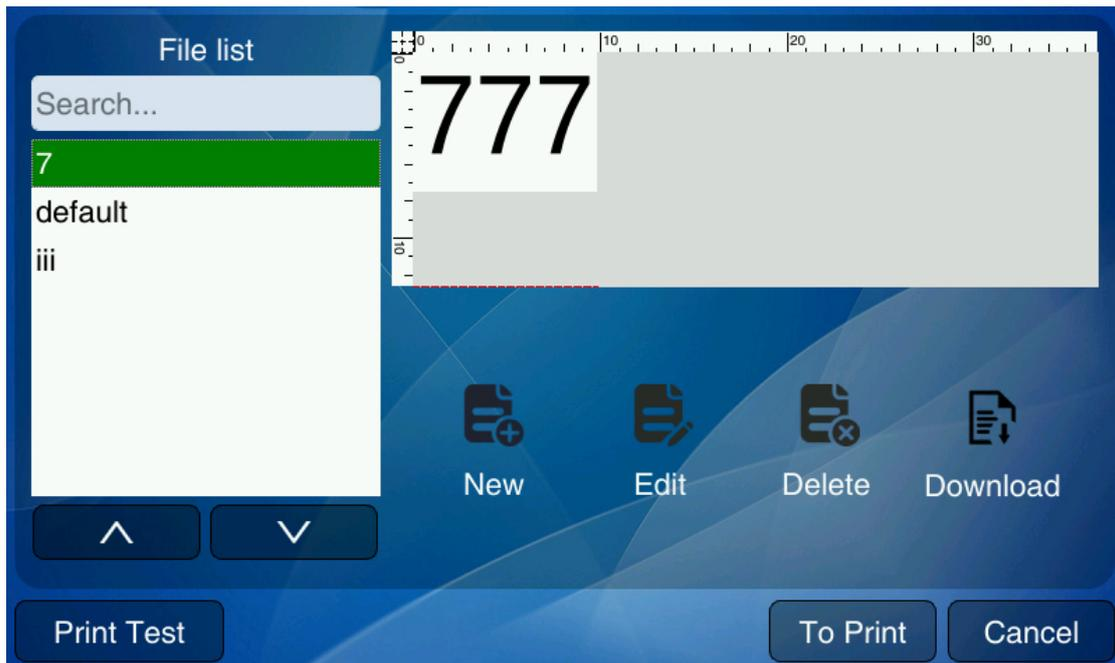

Figure 5-12 Load file interface
1、Click the button **Load File** in the main interface, and the system enters the load file interface. As shown in figure 5-12.